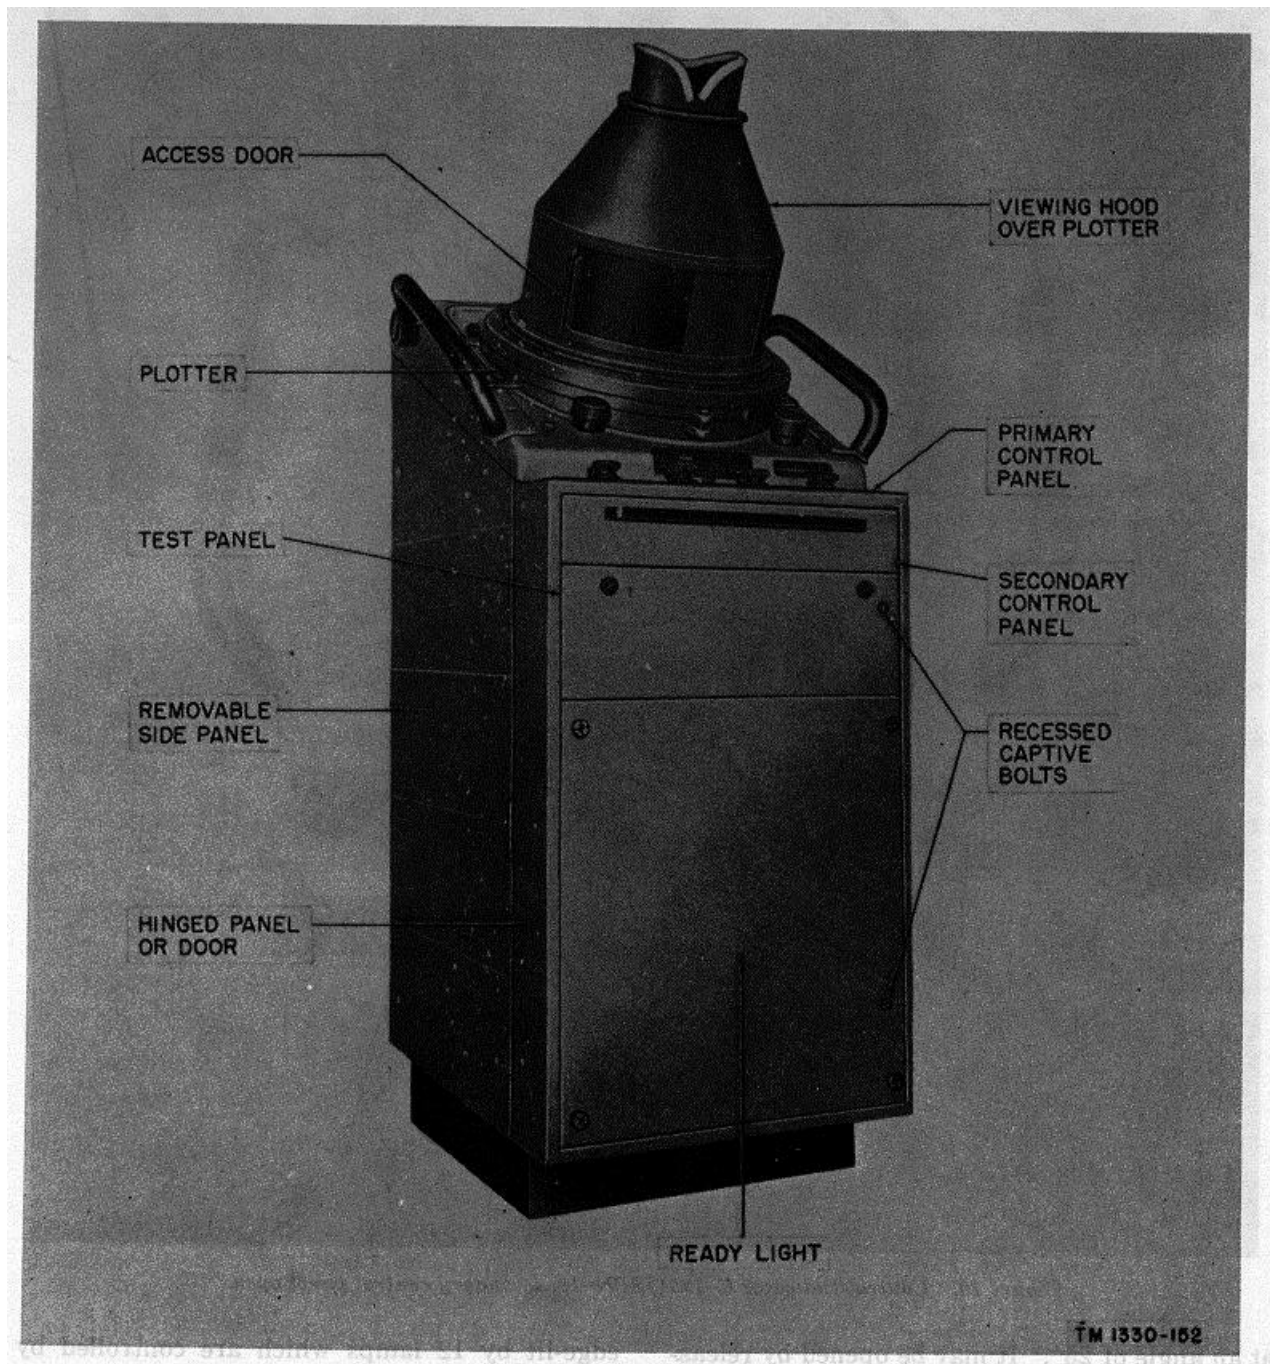
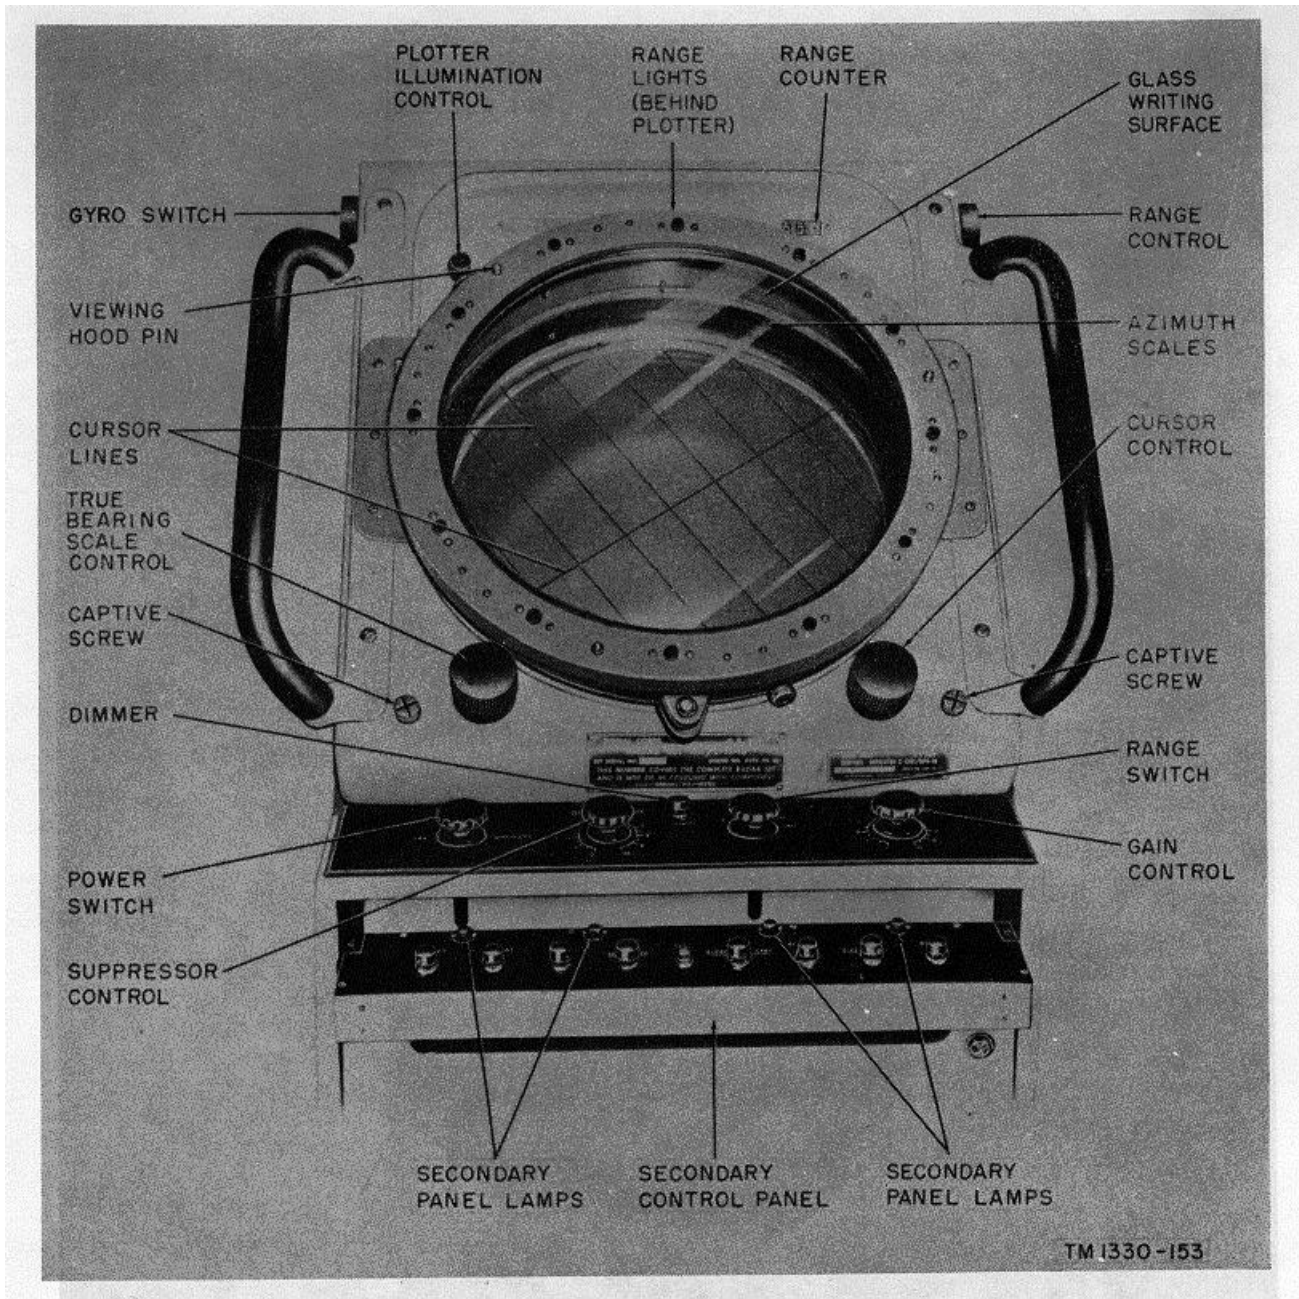
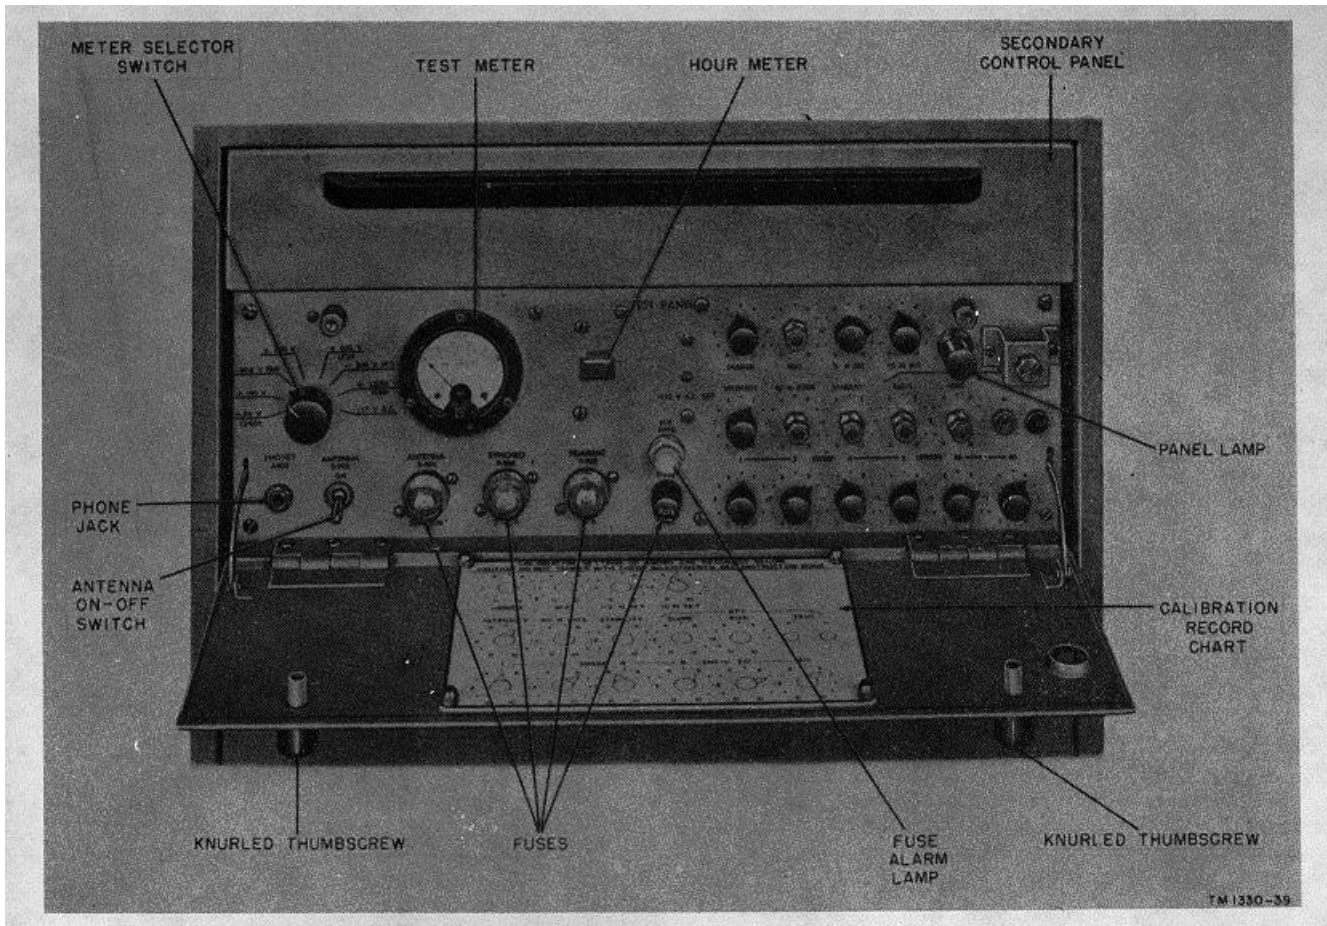
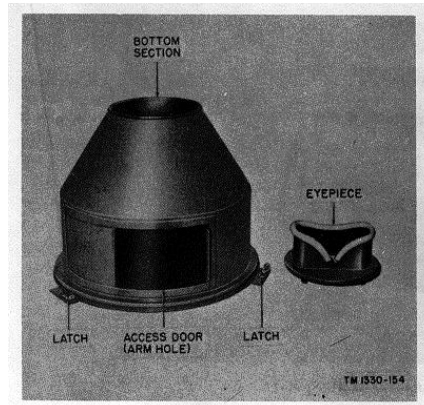

Figure 9. Control-Indicator C-1261/SPN-18, front view with hood.
Figure 10. Control-Indicator C-1261/SPN-18, secondary control panel open.
Figure 11. Indicator test panel.
Figure 13. Two-section indicator viewing hood
The indicator console (fig. 9) houses the following components: the deflection coil assembly (yoke), synchro receiver (also called a synchro motor), cathode-ray tube and its h-v supply, plotter all operating controls for the radar set, test controls, and the indicator and video circuit components. The primary function of the indicator is to convert received echo signals into visual presentations on the face of the cathode-ray oscilloscope.
a. The PPI has a 16-inch screen, circumscribed by two azimuth scales (fig. 10). The inner scale is fixed, while the outer scale is movable and can be controlled either by the operator (using the true bearing knob located near the lower left edge of the screen) or from
b. The plotter is mounted on the console (fig. 10), over the PPI screen. It contains a dichroic (two-color) mirror that enables the operator to see the yellow PPI presentation with red plotting marks superimposed on it. These marks are made by the operator with a wax pencil. The glass writing surface is edge-lit by 12 lamps which are controlled BY a rheostat mounted next to the plotter. A detachable viewing hood (fig. 13) is furnished with the equipment, and is mounted on the plotter (fig. 9) to restrict glow and provide shielding from external light. The viewing hood contains a removable eyepiece and a sliding access door (arm hole), and may be rotated to place the arm hole in the most convenient position for marking targets on the plotter writing surface.
c. Primary controls for the indicator are located on a panel below the screen, and the secondary controls are on a hinged panel (fig. 10) beneath the primary controls. Beneath the secondary control panel is a test panel. The hinged cover on the test panel is released by unscrewing two black, knurled captive screws. The test panel (fig. 11) contains a test meter, antenna switch, phone jack, hour meter, fuses, and adjustments. The proper settings of these adjustments are shown on a diagram attached to the inside of the test panel cover.
The d-c motor generator (fig. 13) used with Radar Set AN/SPN-18, converts the available 115-volt d-c supply voltage to 115-volt, 400-cycle, single-phase ac, rated 965 va (volt-amperes). It consists of a d-c motor and an a-c generator on a common shaft within a single frame. At each end of the shaft, permanently sealed bearings are inclosed by removable access covers. The commutator and motor brushes are inclosed by a removable brush-access cover at the d-c motor end of the frame. Terminal board TB601 is mounted on top of the motor generator frame under a removable cover.